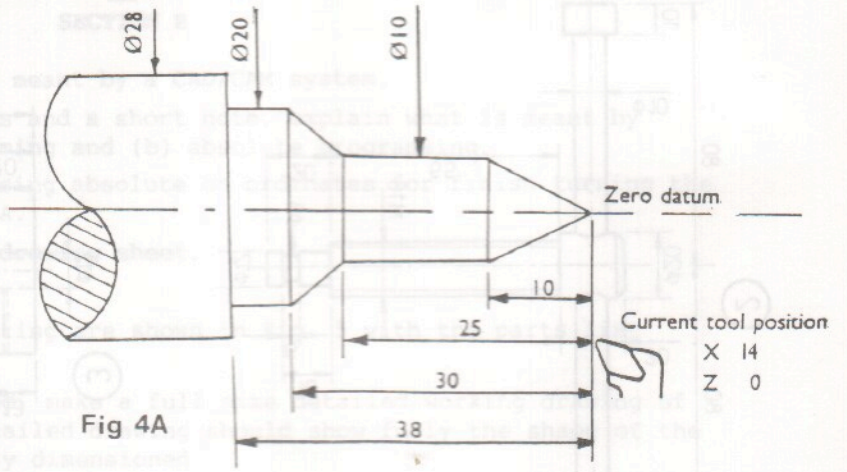

FIG. 4.
- (a) Fig. 4 shows a schematic layout of an air compressor. Sketch freehand the layout drawing with the compressor at the commencement of the delivery stroke. Identify and label on the sketch the following parts:- cooling fins, piston, piston seal rings, cylinder, cylinder head, connecting rod, crankcase, crankpin, crank, balance weights and non-return valve (One shown).
- (1) Radial bearing.
- (2) Thrust bearing.
- (3) Drawing convention for bearings.